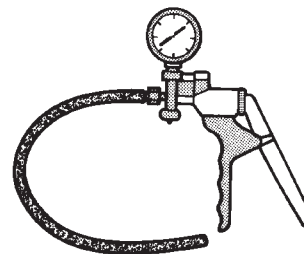

Fig. 2 Hand Operated Vacuum Pump (Typical)
(3) Hand operated vacuum pump can be used for test (Fig. 2).